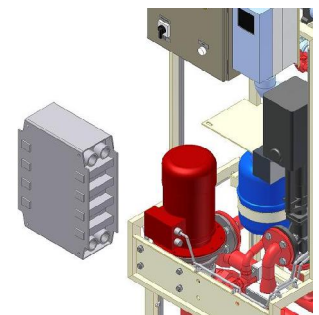

Figure 4.2-4
4. The plate heat exchanger weighs about 42 kg. Carefully pull / lift / turn out the HX11 (Figure 4.2-4).